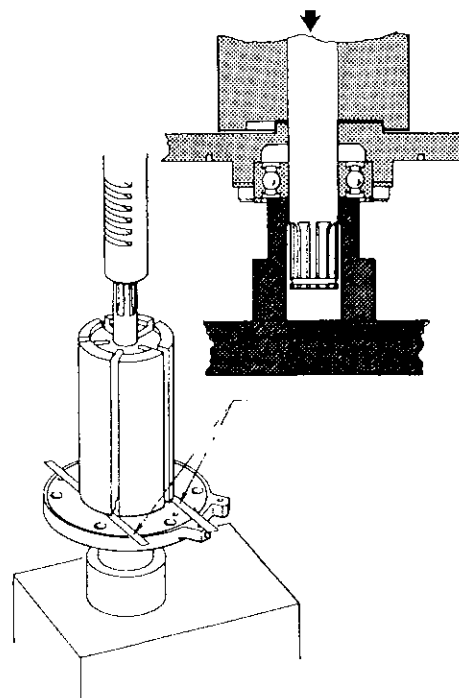

Figure 6.18
11. Heat the lower end plate and bearing assembly to 350 degrees F (177 degrees C) for 1/2 hour to expand the inner race of the end plate bearing. Support the end plate assembly as shown in Figure 6.18 and place two .003" (.08 mm) feeler gauges on the end plate. Apply a small amount of Loctite No. 35 maximum strength retaining compound to the rotor shaft bearing diameter. Insert the rotor assembly until it bottoms against the feeler gauges and hold in position for approximately 30 seconds while the bearing cools to grip the rotor shaft.